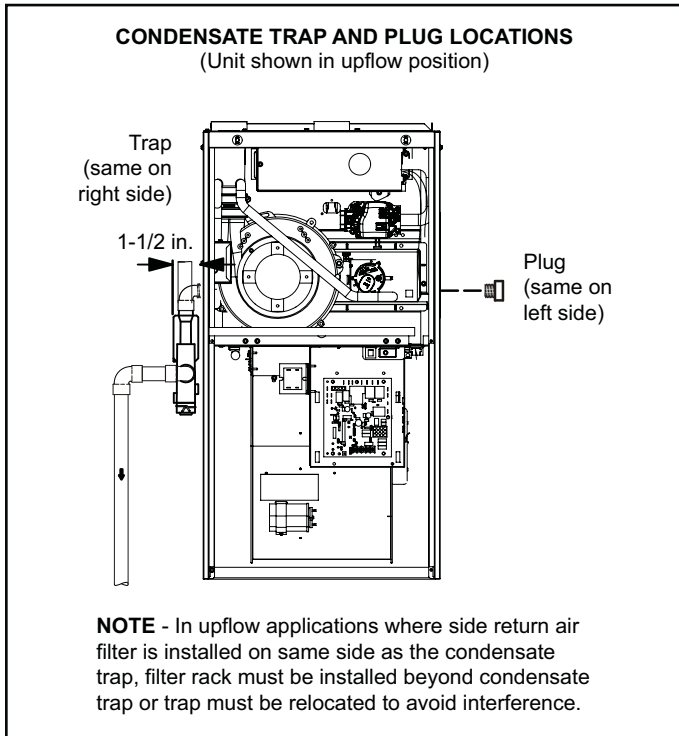
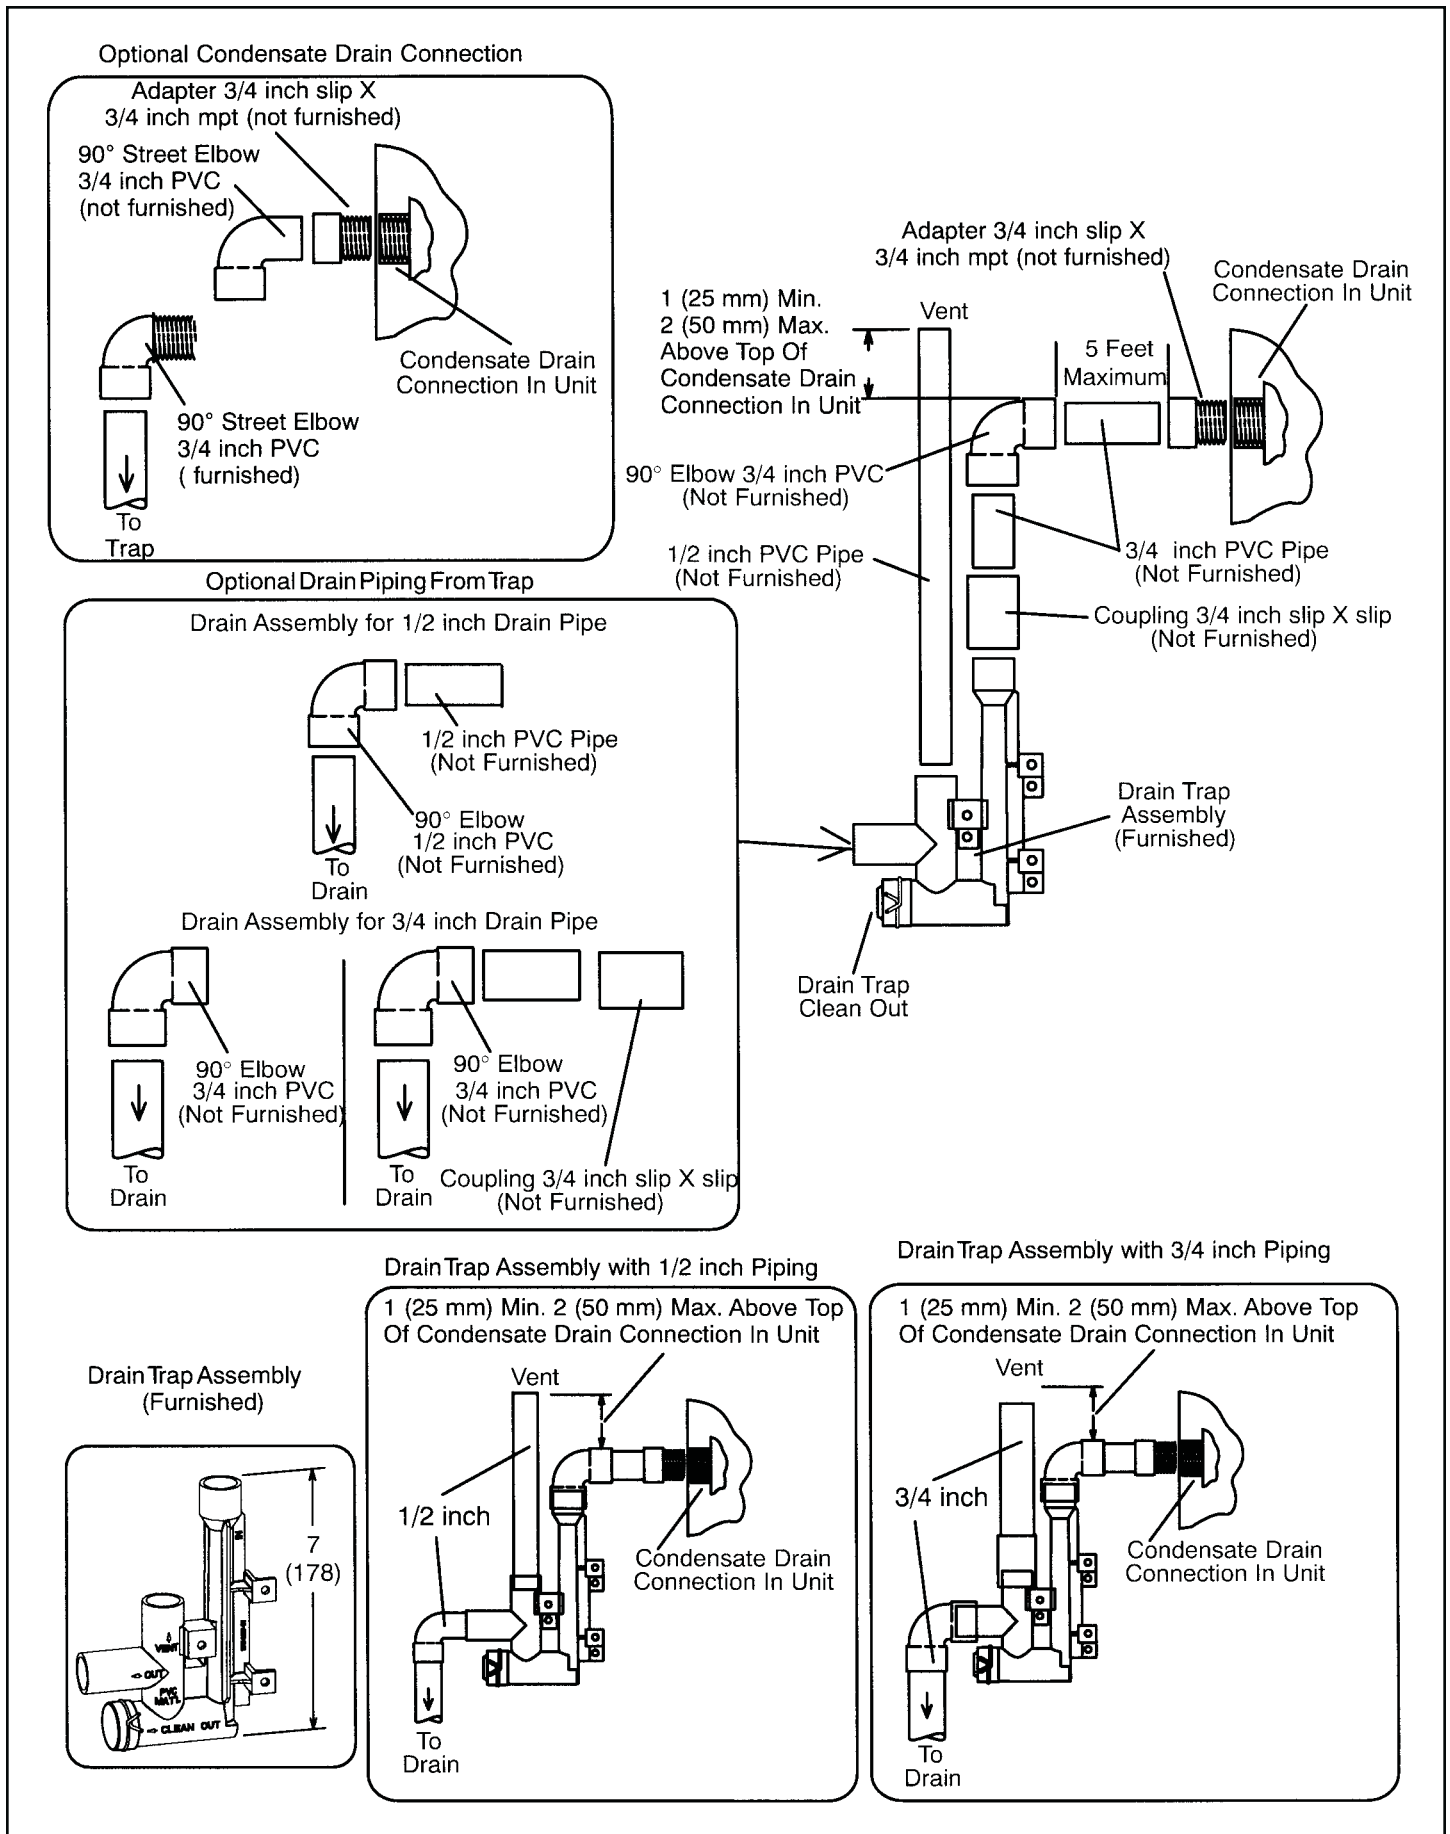

Figure 49.
Figure 56. Trap / Drain Assembly Using 1/2" PVC or 3/4" PVC
This unit is designed for either right or left side exit of condensate piping in upflow applications. In horizontal applications, the condensate trap must extend below the unit. An 8" service clearance is required for the condensate trap. Refer to Figure 49 for condensate trap locations. Figure 56 shows trap assembly using 1/2" PVC or 3/4" PVC.
2. Use a large flat head screw driver or a 1/2" drive socket extension and remove plug (Figure 49) from the cold end header box at the appropriate location on the side of the unit. Install provided 3/4 NPT street elbow fitting into cold end header box. Use Teflon tape or appropriate pipe dope.
4. Install drain trap using appropriate PVC fittings, glue all joints. Glue the provided drain trap as shown in Figure 56. Route the condensate line to an open drain. Condensate line must maintain a 1/4" downward slope from the furnace to the drain.